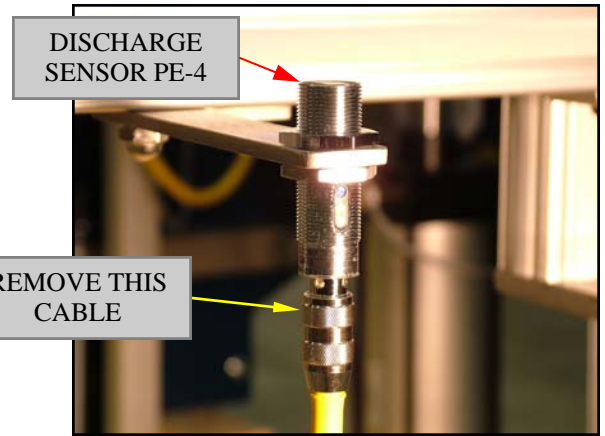

Figure 8
6. Remove cable from photo eye (PE-4) discharge sensor. (Note the position of the cable end in relation to the photo eye socket so you can reinstall the cable correctly.) (See Figure 8)